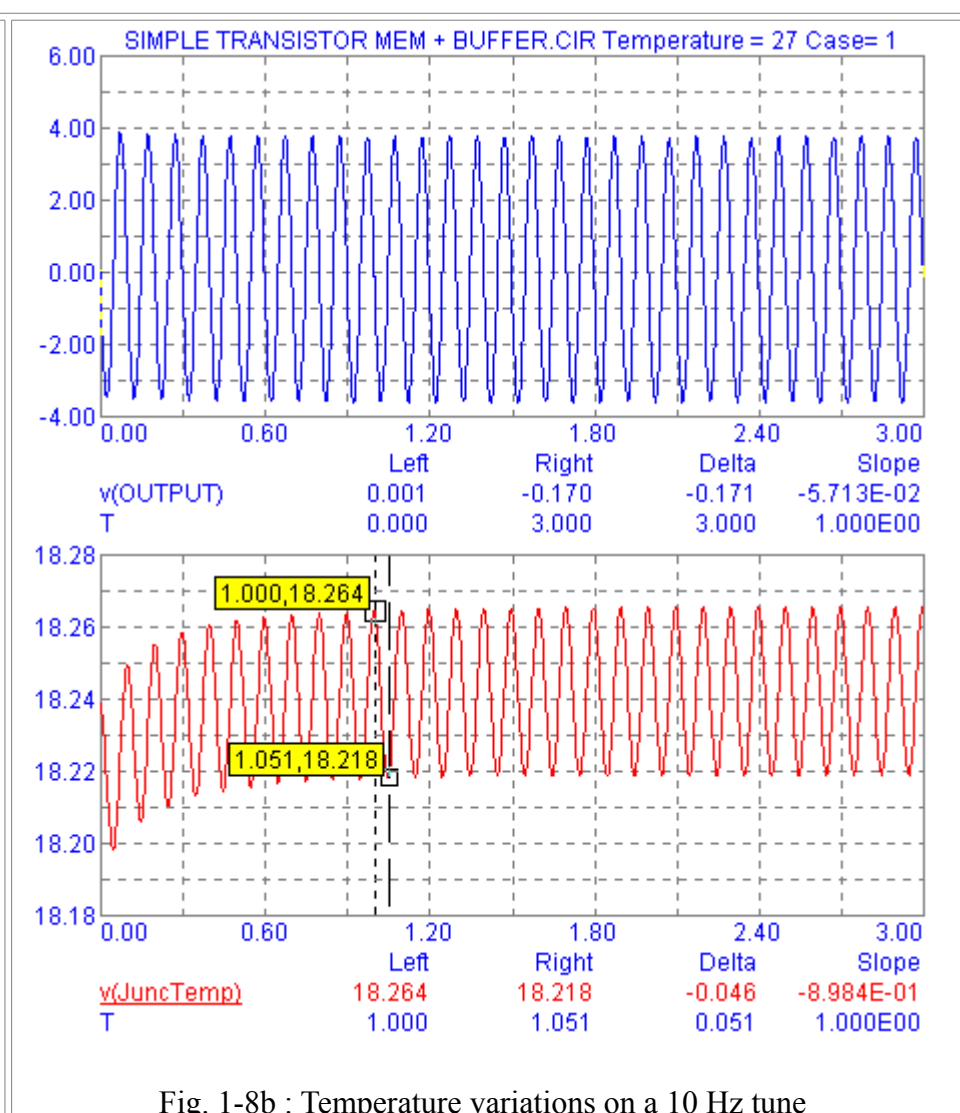

Fig. 1-8b : Temperature variations on a 10 Hz tune
- 10 Hz at the same amplitude, seen in Fig. 1-8b.